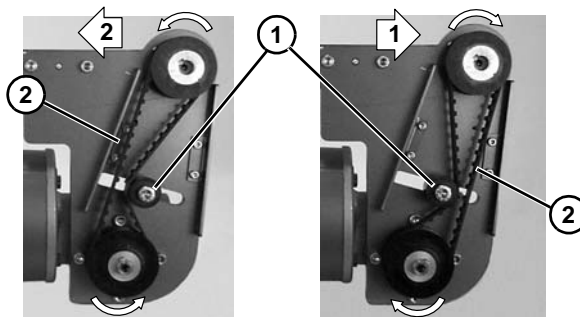

Figure 23
5. Depending on conveyor belt travel (direction 1 or 2), locate timing belt tensioner (Figure 23, item 1) as shown. Tension timing belt to obtain 0.125" (3 mm) deflection for 1.0 lb (456 grams) of force at timing belt mid-point (Figure 23, item 2). Tighten tensioner screw to 103 in-lb (12 N-m).